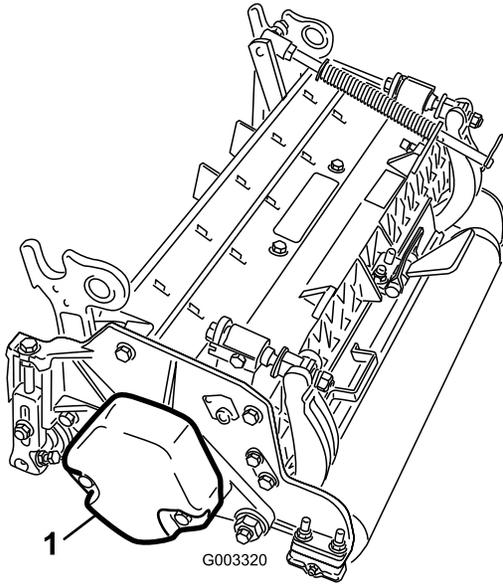

Figure 3
4. Make sure that the counter weight (Figure 3) is installed to the proper end of each cutting unit as described in the *Operator's Manual* for the cutting units.